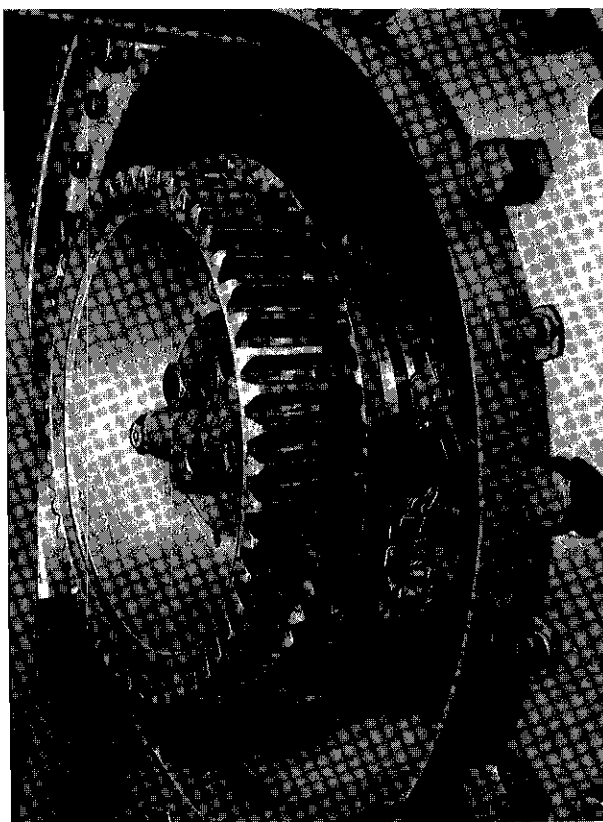

Fig. 17 - Compressor Coupling Gear And Slip Rings
17. Cut cables and skin. Allow enough slack in cables to clear bolt heads. Solder terminal lugs to cables, wrap and tie cables with torpedo twine. Assemble terminals to proper post with flat washers, lockwashers and nuts. Paint cables with red air-drying enamel. (See Fig. 17).